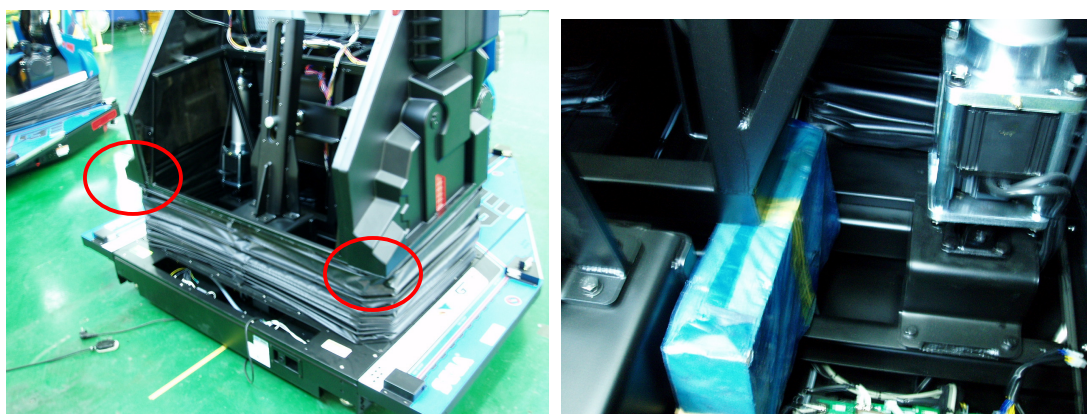

Fig. 8
8. By lifting the points noted in Fig.8, place the jig so the cabin is stable. Use caution so the jig does not damage the Motor Controller Board.